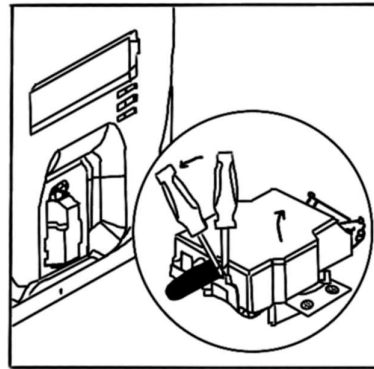

Figure 3
- Using a screwdriver, prize the bolt on the side tabs of the terminal board cover (Figure 3)